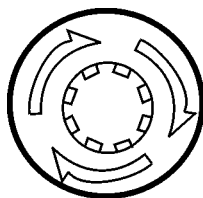

Figure 70. Emergency Stop Button
1. **PUSH** inward the **RED** emergency stop button located on the **engine operating panel** (Figure 70) to turn off the generator in the event of an emergency. This button is located on either Engine Operating Panel.